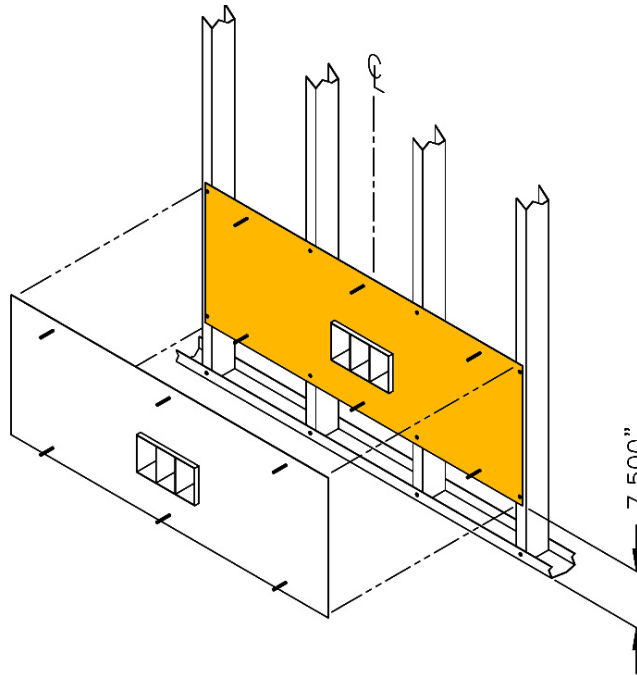
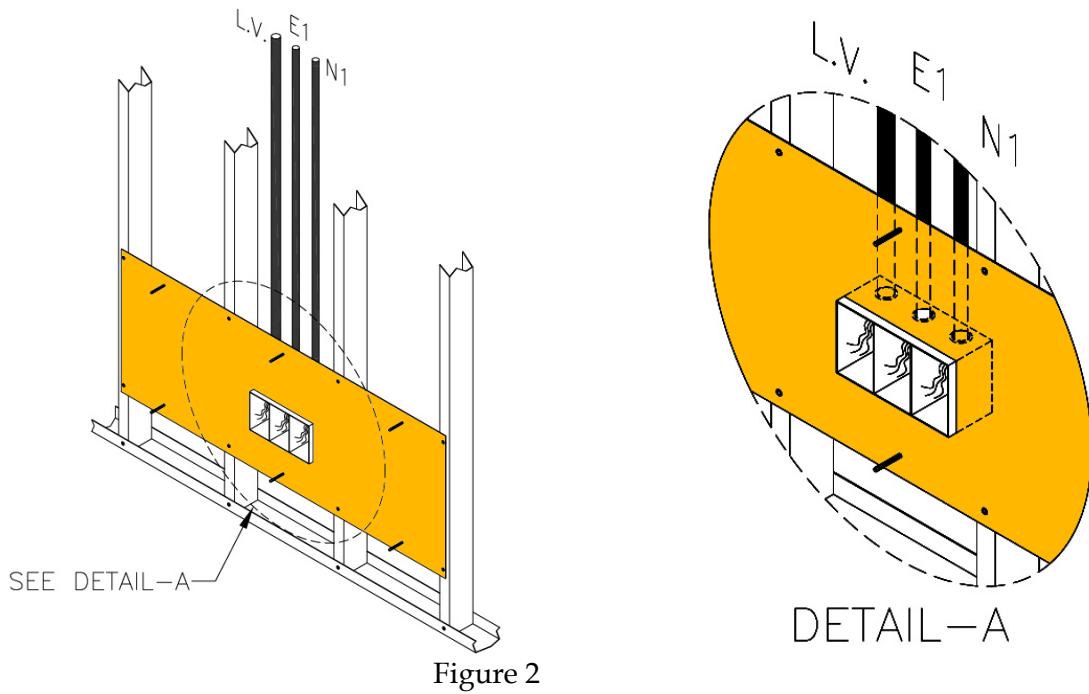

Figure 1
Figure 2
Mount the rough-in bracket so that the bottom of the bracket is 7.5" (190)mm above the floor. Attach the mounting bracket to the studs with sheet metal or TEC screws [not provided]. See Figure 1 for detail. Electrical junction boxes are integral with the rough-in bracket and locate the electrical and communication entrances. Install conduit in appropriate box. Be sure to follow the order of conduit. $\frac{3}{4}$ -1" combination knockouts are provided on the top and bottom of each compartment. Normally the order of the boxes is [R to L] Low Voltage, Emergency Power, and Normal Power. Check the approved submittal drawings for any variation. The rough-in bracket is screwed to the front of the vertical studs. Note that there are four $\frac{1}{4}$ -20 bolts attached to the bracket. These will eventually be used to mount the Bed Bumper/Locator. The threaded portion of the bolts, point into the room. Refer to Figure 2.